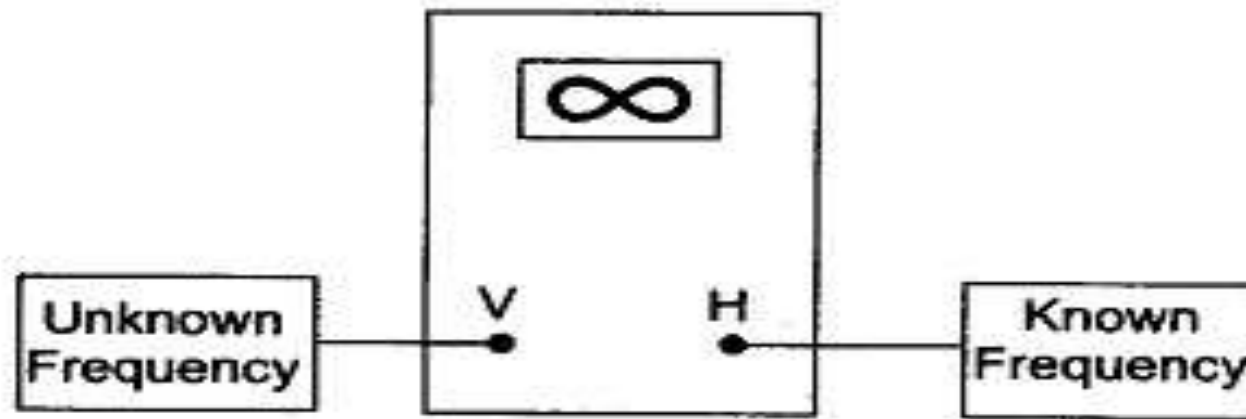

Fig. 7.33 Basic Circuit for Frequency Measurements with Lissajous Figures
- Set up the oscilloscope and switch off the internal sweep (change to Ext). Switch off sync control. Connect the signal source as given in Fig. 7.33.
Figure 7.33 illustrates the basic circuit for comparing two frequencies by the Lissajous method.